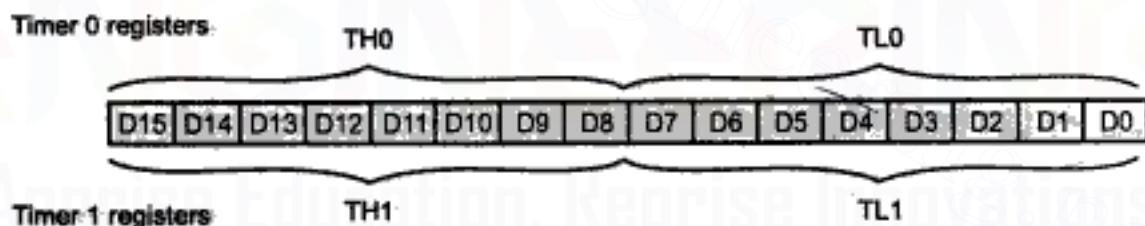

Fig. 9.1 Timer 0 and Timer 1 registers
8051 has two timers, timer 0 and timer 1. Basically both, timer 0 and timer 1 are 16-bit registers. Since 8051 is an 8-bit microcontroller, each 16-bit register can be accessed as low-byte register(TL) and high-byte register(TH). Fig. 9.1 shows the timer 0 and timer 1 registers. These registers can be accessed like other registers (A, B, R0, R1 etc.) in 8051.